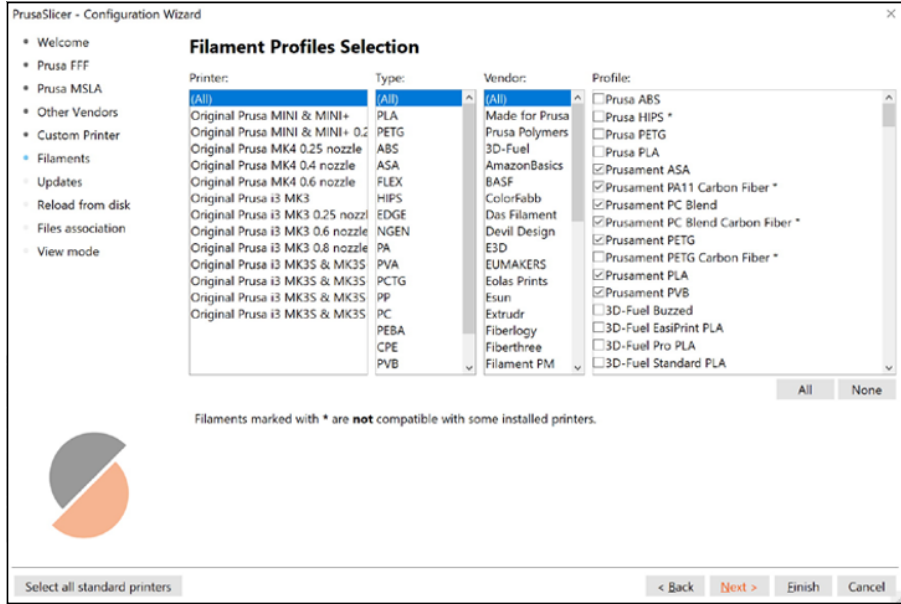

FIGURE 15-14: Select the types of material filaments you have or may want to use in the future.
4. Assuming you have selected the correct printer and clicked Next, select the filament profile you're planning on using in the next screen that appears (see Figure 15-14) and then click Next.